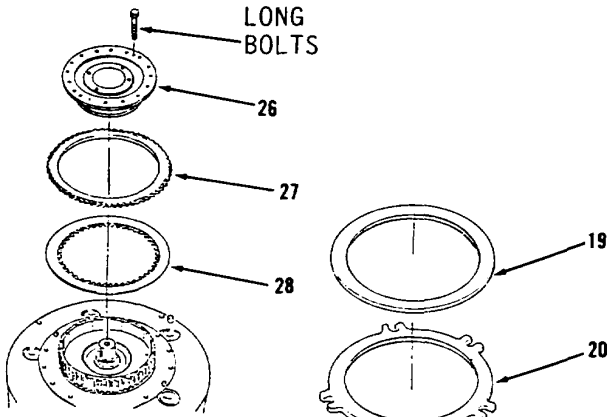
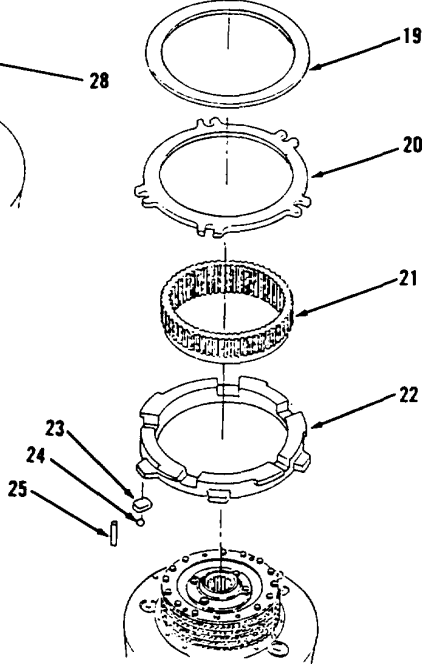

Figure 14-46.
Figure 14-45.
- 38. Install five discs (27) and four plates (28, Figure 14-46).
- 39. Install two long bolts into hub (26) to aid in installing hub (26) using care not to damage seal.
- 40. Install hub (26).
- 41. Install four alining pins (25), five balls (24) and inserts (23, Figure 14-45).
- 42. Install piston (22), gear (21), four discs (19) and three plates (20).